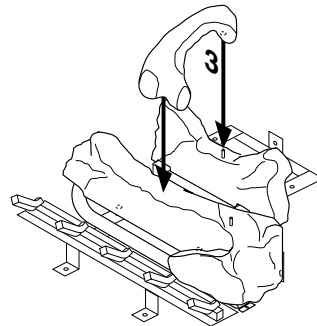

Figure 20 - Installing Log #3, Models CD32M/CD36M-A Series
3. Place log #3 (c-shaped crossover log) onto rear and front logs as shown in Figure 20. Make sure it is seated properly on the smooth surface on front log and on the pin on back log.